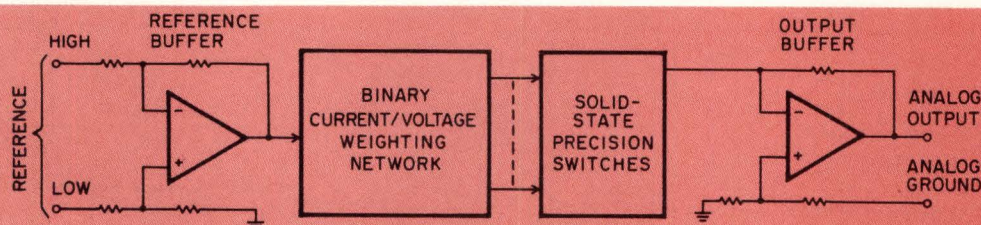

Fig. 1. Basic external-reference multiplying DAC.
Let's now return to Fig. 1, and take another look at sections (A) and (C) of the multiplying DAC circuit. This will help us understand more clearly the reasons for settling-time, accuracy, and bandwidth limitations.
analog ground, where necessary, the output op amp should be connected as shown in Fig. 1.